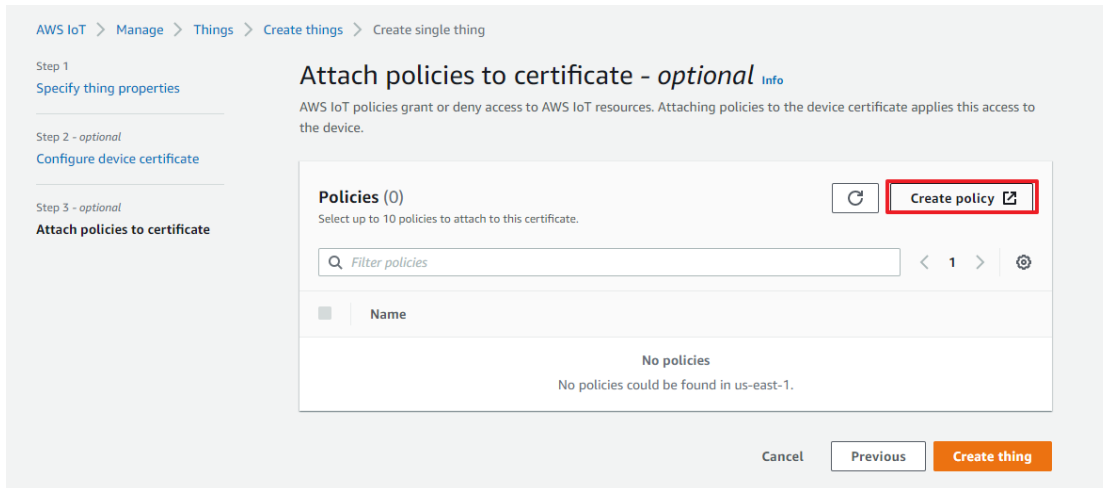

Figure 4-130 Ready to Create Policy
3. When reaching step 3 of creating a Thing, you will need to choose a Policy. If you don't have a Policy available, please follow the instructions and navigate to "Policies" first to create a Policy (as shown in Figure 4-130).